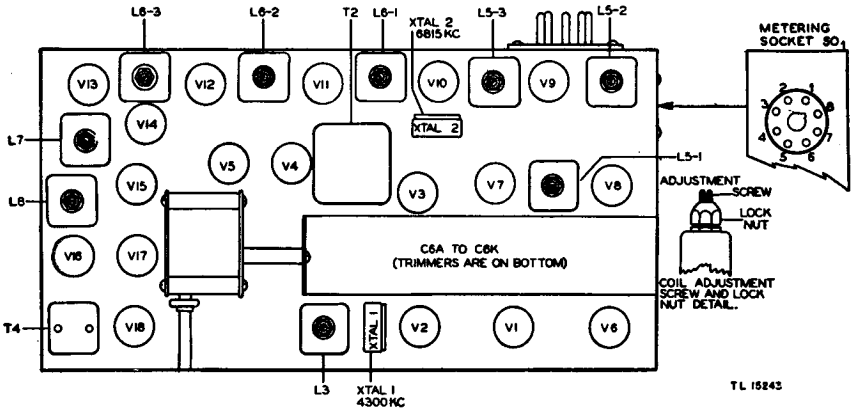

Figure 85. Radio Receiver and Transmitter BC-1000-A, alignment instruction detail—top view.
(4) Plug in Handset TS-15-().
(5) Set Alignment Indicator I-210-() VOLTAGE SELECTOR SWITCH in the 4.5-volt position, short the test probe to the alligator clip, and adjust the calibrate knob for a hairline shadow on the indicator eye.
(6) Loosen the locknuts on L3, L5-1, L5-2, L5-3, L6-1, L6-2, L6-3, L7, and L8, just enough to leave some tension on the screw adjustment. (See fig. 85.) Use the spintite wrench found in Maintenance Equipment ME-40-().
(7) Screw phantom Antenna A-28-() into the antenna terminal of Radio Receiver and Transmitter BC-1000-A, and attach the ground lead to the GROUND FOR SHORT ANT. post.
(8) Turn on the set.
(9) Plug Alignment Indicator I-210-() into Battery BA-39.
(10) Throw the VTVI VOLTAGE SELECTOR SWITCH SW1 to the 30-volt position and turn the CALIBRATE knob to open the shadow angle on the indicator eye to 90°.
b. ALIGNING 4.3-MEGACYCLE OSCILLATOR. (1) Insert the test probe in metering socket pin No. 4 of Radio Receiver and Transmitter BC-1000-A and fasten the alligator clip to the chassis.
a. PRELIMINARY PROCEDURE. (1) Remove the chassis of Radio Receiver and Transmitter DC-1000-A from the case,
(2) Before attempting to align the set, check all the tubes, using the method outlined in table XII.
(3) Connect Radio Receiver and Transmitter BC-1000-A to Battery BA-70 or BA-80 with the battery cord furnished with Maintenance Equipment ME-40-(), or plug the set directly into the battery.
(5) Turn on the set.
(6) Check the discriminator, *b*(5), below.
(7) Loosen locknuts on L3, L5-1, L5-2, L5-3, L6-1, L6-2, L6-3, L7, and L8 just enough to allow adjustment of screws. (See fig. 85.)
(8) Turn on the 4.3-mc signal generator and allow it to warm up for at least 15 minutes.
(9) Use a suitable phantom antenna, such as phantom Antenna A-28-(), if available. When employing this procedure in the field, do not press the PRESS FOR DIAL LIGHT & CALIB. button unless a phantom antenna is installed.
b. ALIGNMENT. (1) *4.3-megacycle crystal oscillator.* (a) Insert the electronic voltmeter probe into pin No. 4 of the metering socket.